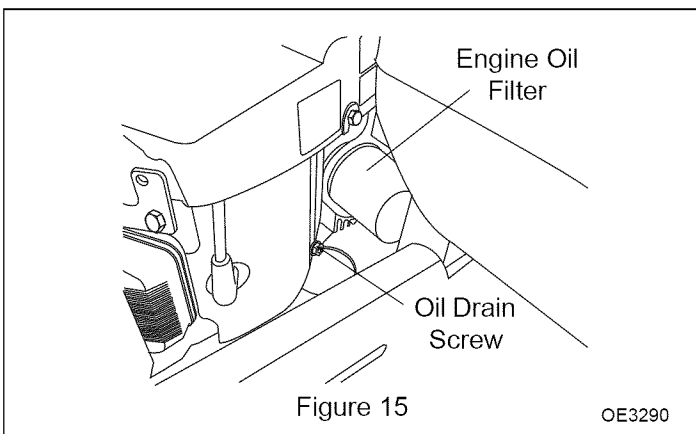

Figure 15
4. Remove the oil drain screw, see figure 15, and drain the oil into a suitable container while the engine is still warm.